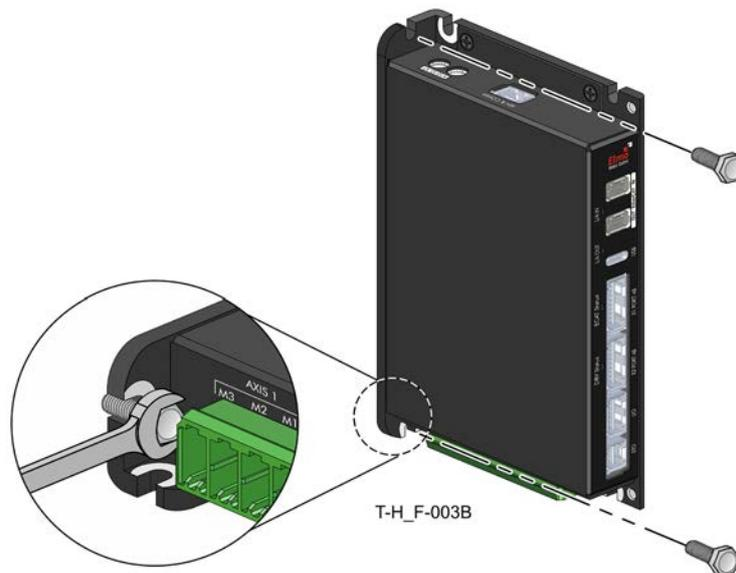

Figure 2: Rear-side wall-mounting Titanium Harmonica
- For Rear-side wall-mount: Mount the Titanium Harmonica with two M4 screws. Slide the screw into the securing slot before tightening it with the spanner. See Figure 2.